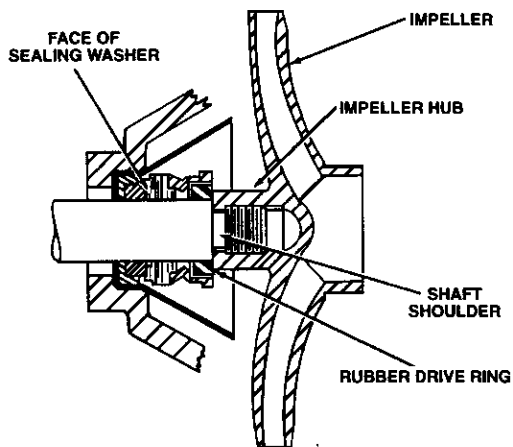

Figure 9
- I. Screw impeller on shaft (clockwise) while holding shaft with 7/16" open end wrench on shaft flats. This will automatically locate seal in place. See Figure 9.